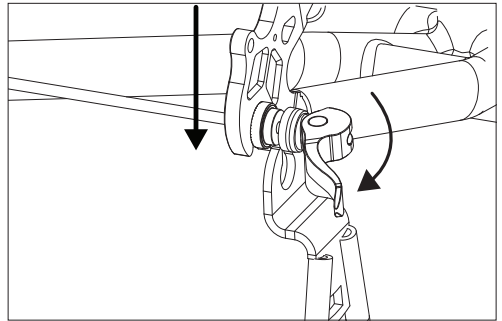

Fig. 41: Lowering bike into RackStand dropouts.
4. Open the QR lever and lower bike into the RackStand slots (Fig. 41).